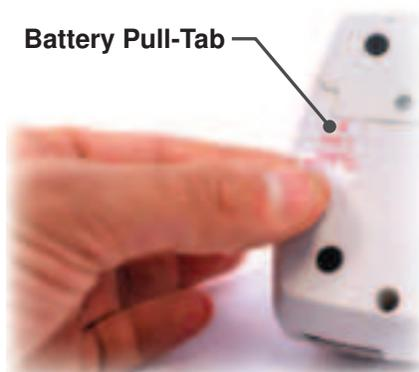

Figure 4: Remove the Battery Pull-Tab
- 3 Remove the battery pull-tab from the bottom of the instrument (Figure 4).
NOTE: The battery pull-tab must be removed from the bottom of the instrument before charging (Figure 4 (page 20)).